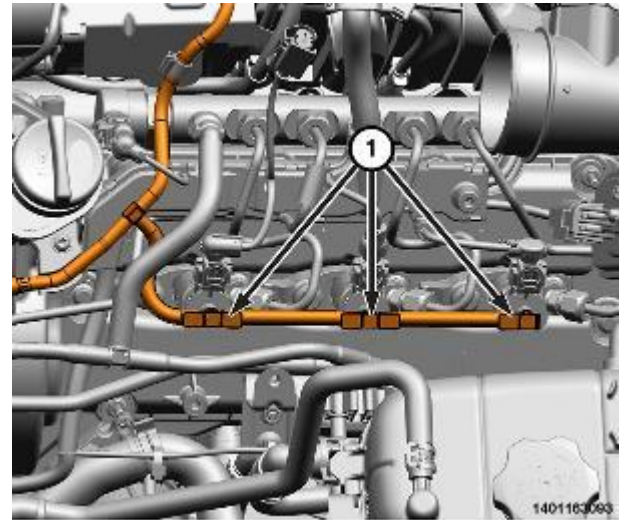

Figure 114 – Fuel Return Hoses
35. Lift up on locking tabs (1) to unlock the locks on the fuel return hoses on the tops of the injectors (Figure 114).
36. Disconnect the fuel return lines by wiggling the hoses free from the fuel injectors (Figure 114).